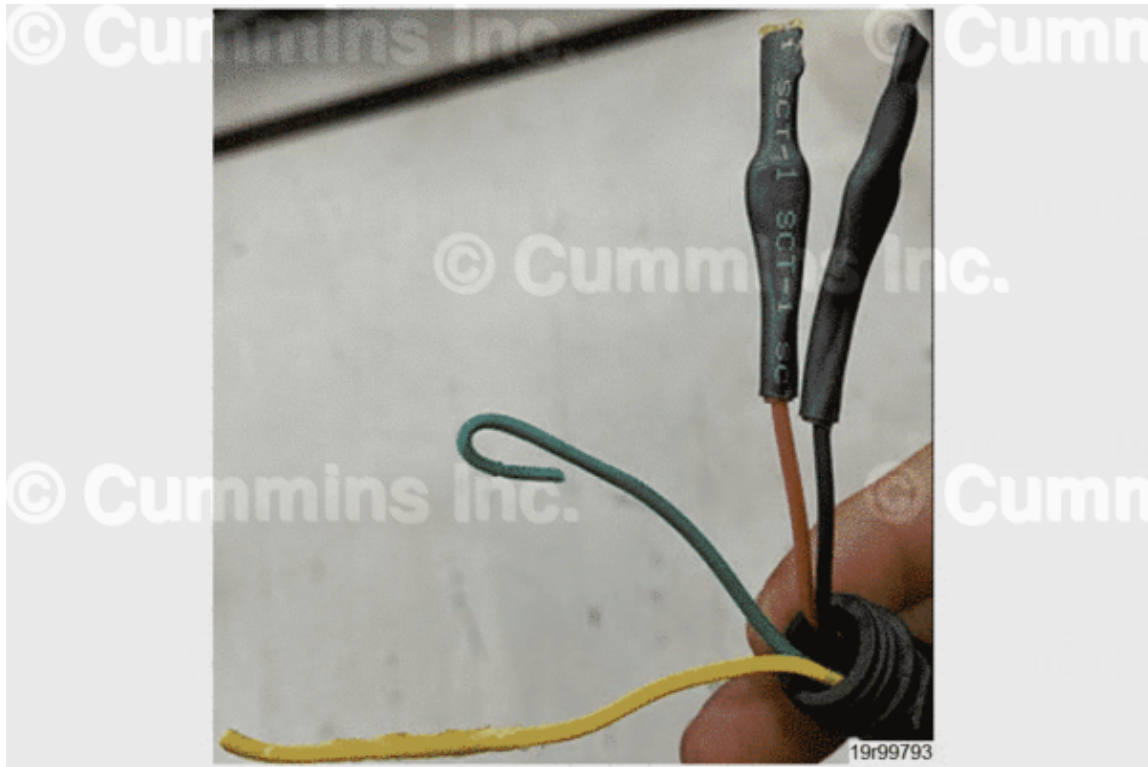

Figure 2, Heat Shrink Applied To Looped Wire.
5. Loop each wire and apply heat shrink tubing to each end of the wire. See Figure 2 below.